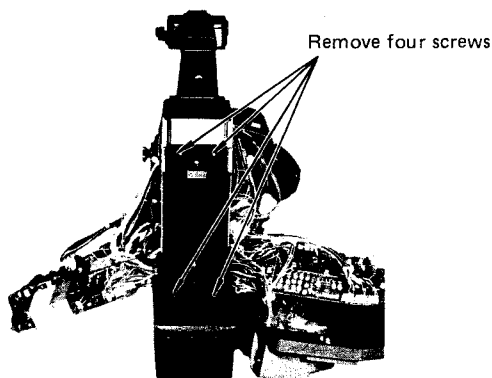

Fig. 3-2-2
- o Remove four screws which hold the rear panel and remove the rear panel. (Fig. 3-2-2)